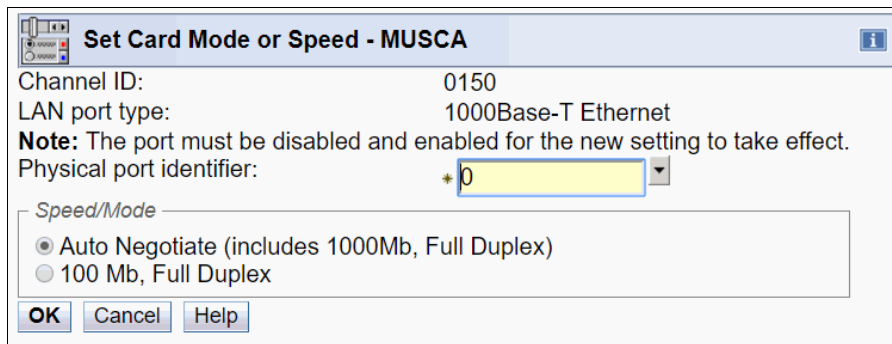

Figure 6-22 Set card mode or speed
4. The Set Card Mode or Speed window opens (see Figure 6-22). Select the correct port speed from the Speed/Mode list. You can set the speed of port 0 and 1 individually. Click **OK**.